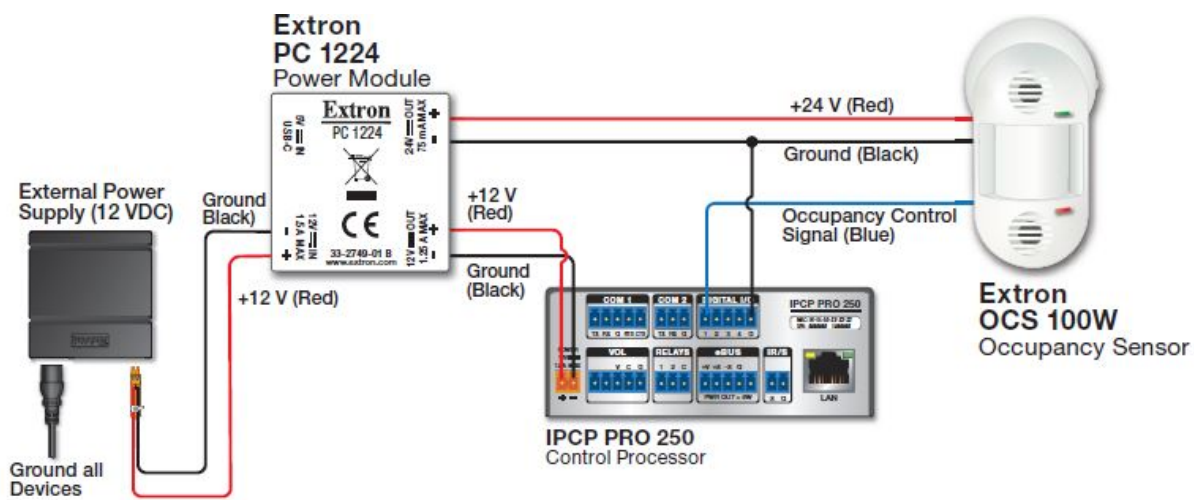
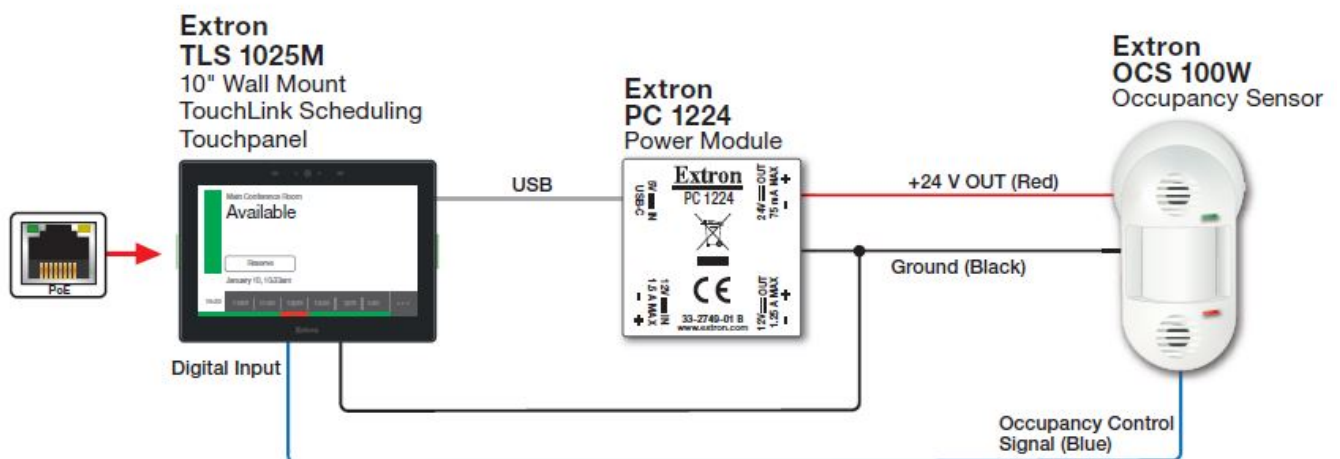

Figure 8. OCS 100W External Power Supply Wiring Diagram
Figure 9. OCS 100W USB Power Wiring Diagram
1. Connect a 12 VDC power source to the 12 VDC input on the supplied PC 1224 power converter (see figure 8), or power via the USB type-C 5 V input (see figure 9).